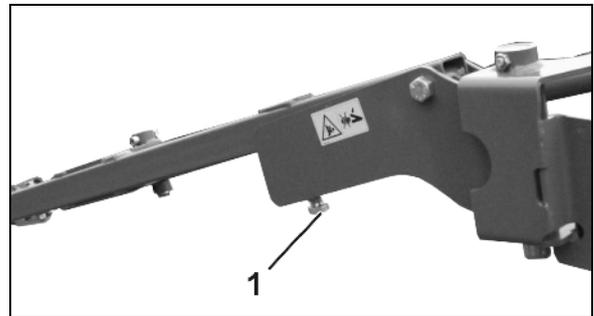

Fig. 109
- Adjusting a larger working depth of the track marker: **Undo** screw (Fig. 109/1) further and lock with a nut.
- Adjusting a narrower working depth of the track marker: **Tighten** the screw (Fig. 109/1) and lock with a nut.